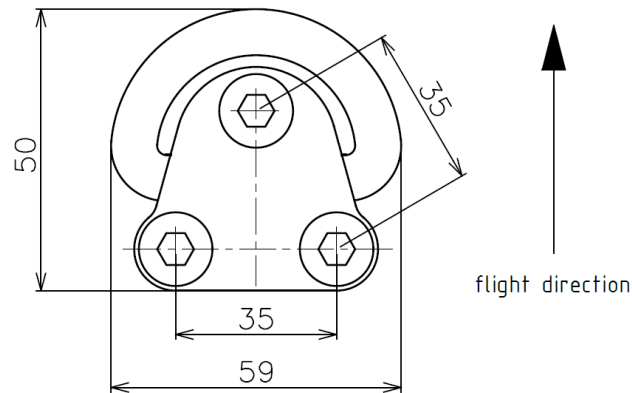

Figure 4: drilling dimensions definition
2. After defining the fixing point position drill 9mm holes through the floor. Necessary dimensions are defined in Figure 4.